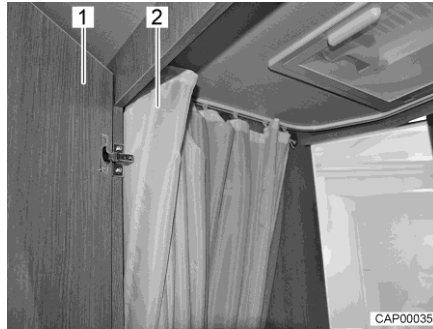

Fig. 95 Toilet compartment with shower
- For showering, close the door (Fig. 95,1) and completely close the shower curtain (Fig. 95,2) so that all walls are protected.